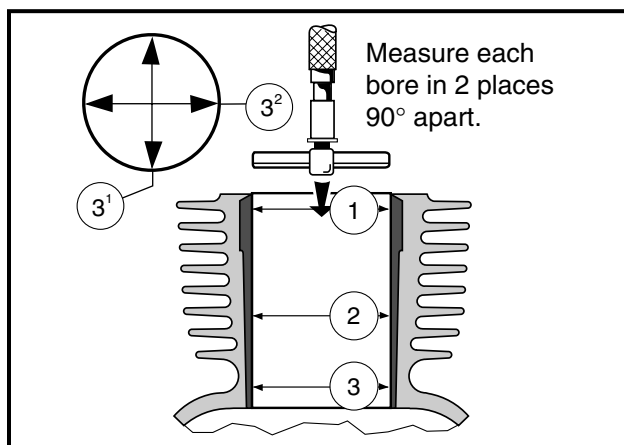

Figure 18-51 Measure Cylinder Bore
2. Make the first measurement parallel with the crankshaft and the second at right angles to the crankshaft at three different locations in the bore. The first measurement location is 0.4 inch (10 mm) from the top of the cylinder. The second location is in the center or 2.4 inches (60 mm) from the top, and the third location is 0.3 inch (8 mm) from the bottom of the cylinder or bottom of ring travel. (**See locations 1, 2, and 3 in Figure 18-51, Page 18-27**).